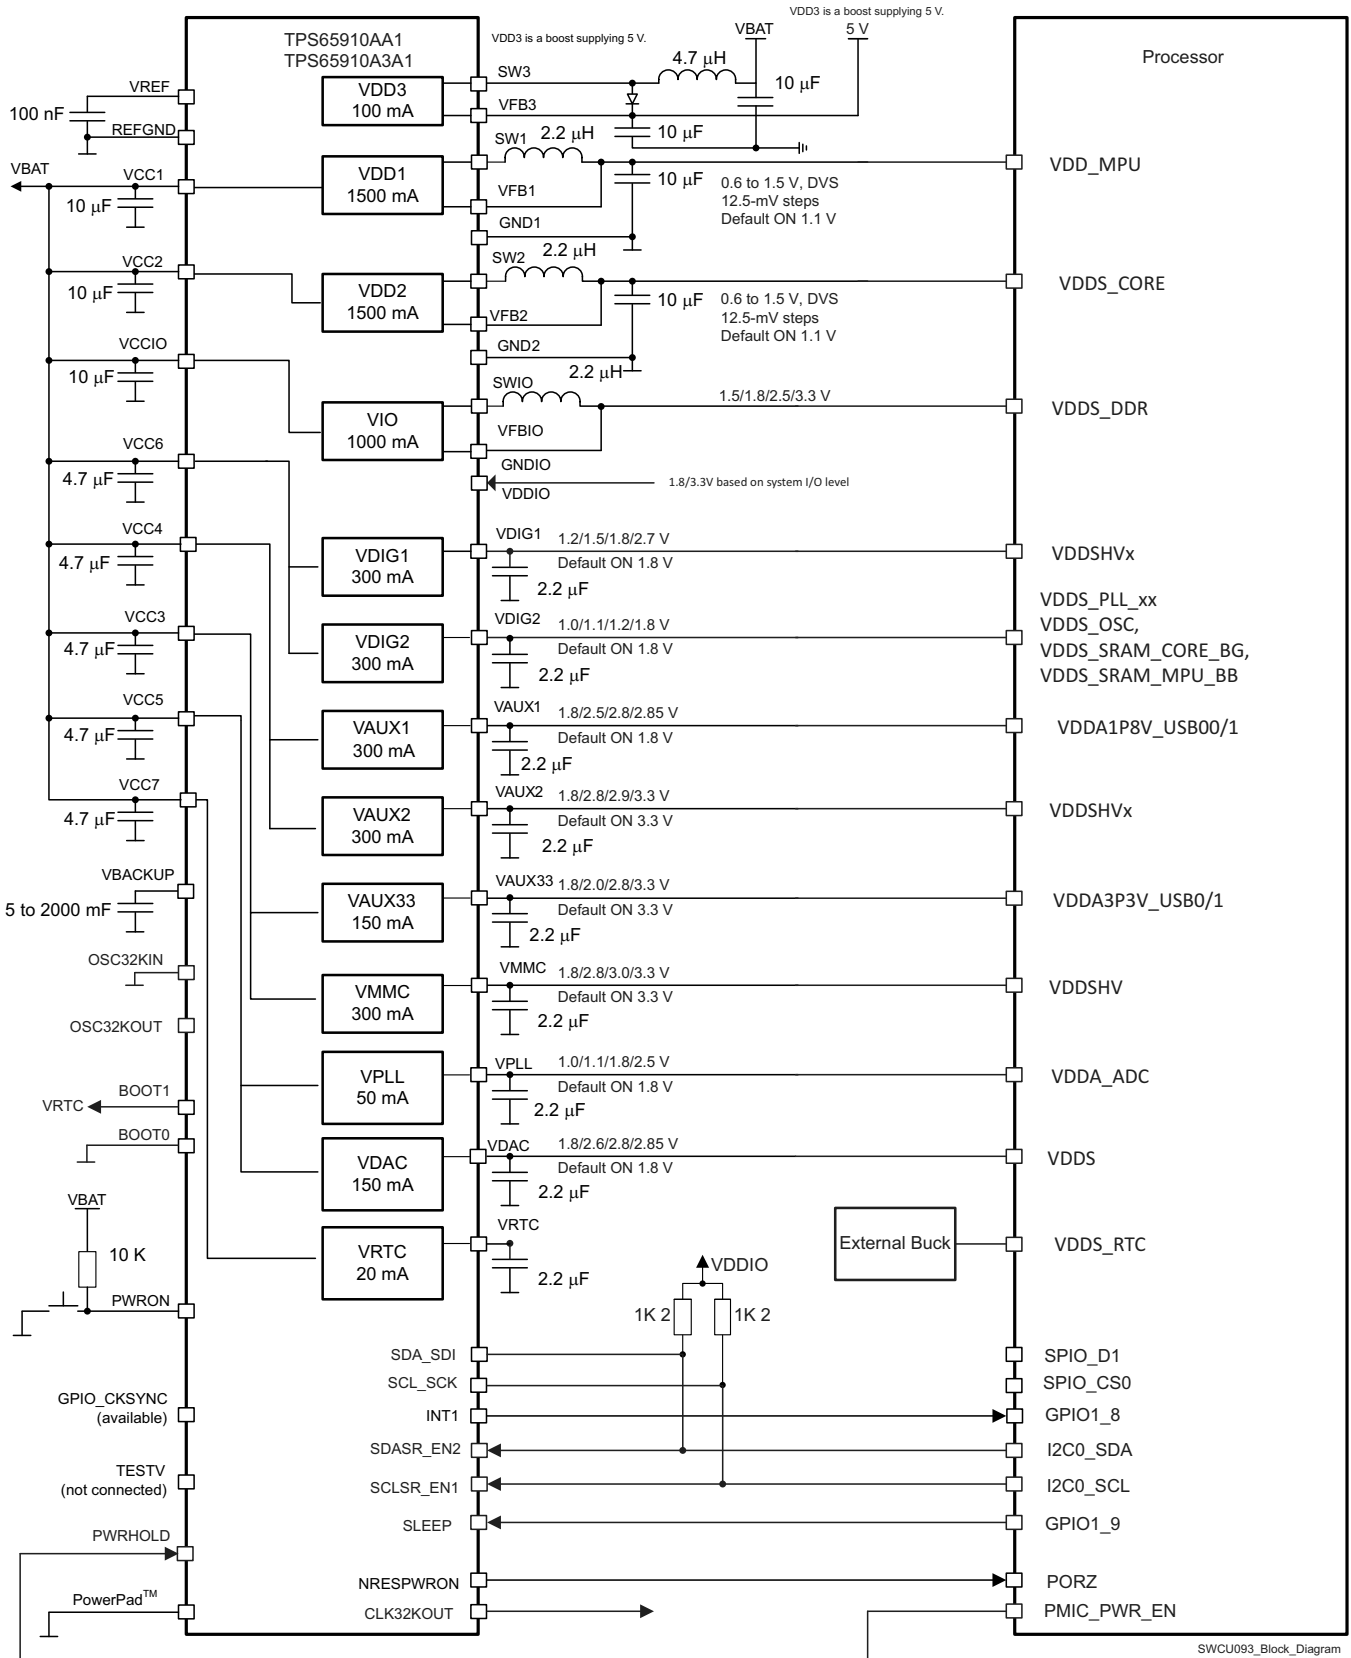
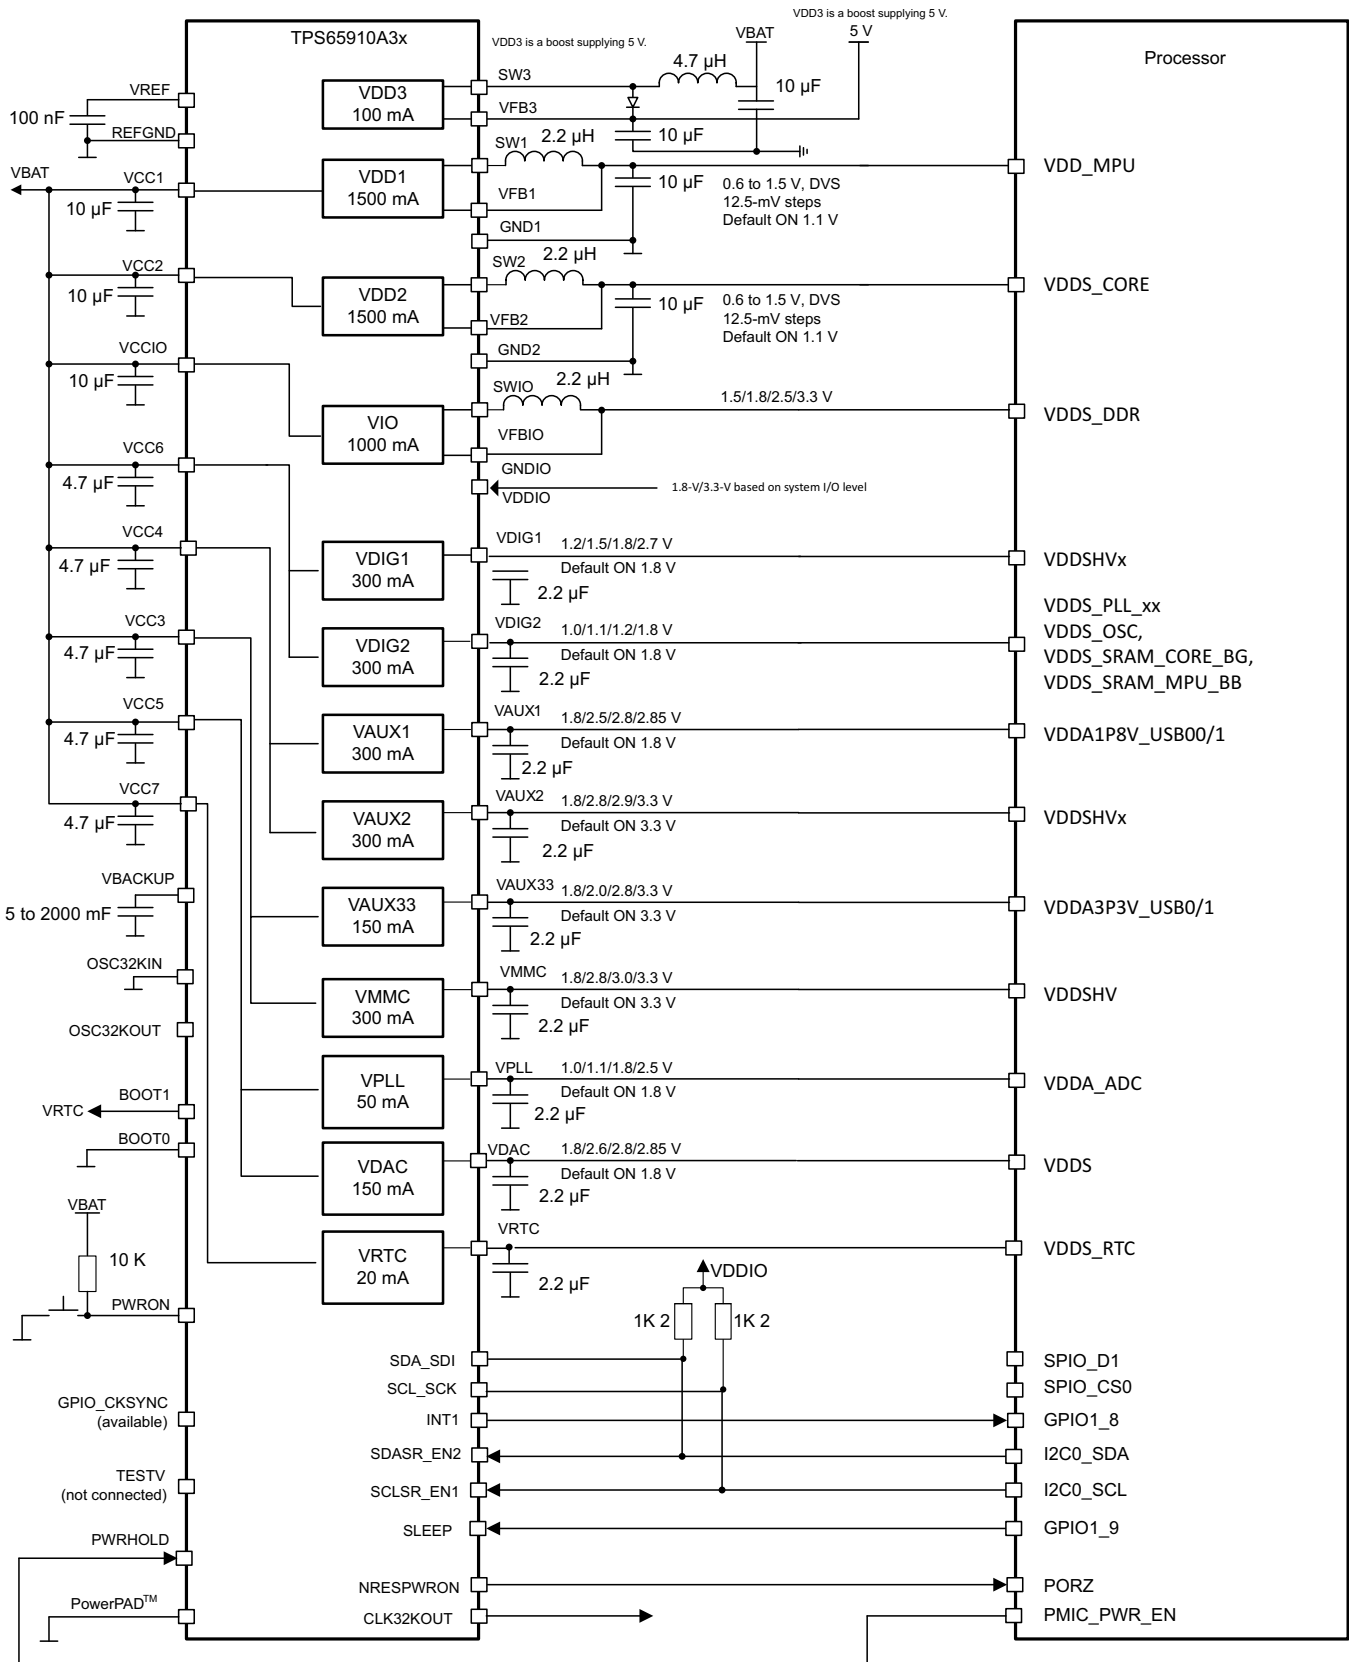

Figure 1. AM335x Power Supply Connections With TPS65910AA1 and TPS65910A3A1
Figure 2. AM335x Power Supply Connections With TPS65910A31A1
Figure 1 shows the connection diagram between the processor and the TPS65910AA1 or TPS65910A3A1. Figure 2 shows the connection diagram between the processor and TPS65910A31A1.
- The VDD1 and VDD2 connections shown in Figure 1 and Figure 2 are valid for processor version ZCZ (15 × 15). In ZCE (13 × 13), VDD_MPU and VDD_CORE are shorted internally. For ZCE, connect VDD1 to VDD_MPU; VDD2 is free for system use.